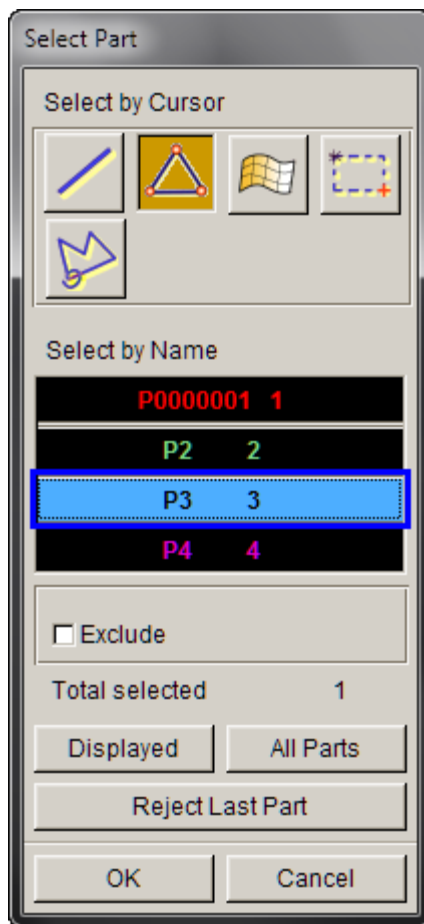

Figure 57
5. Select part **p3** and click **OK**. (Figure 57).